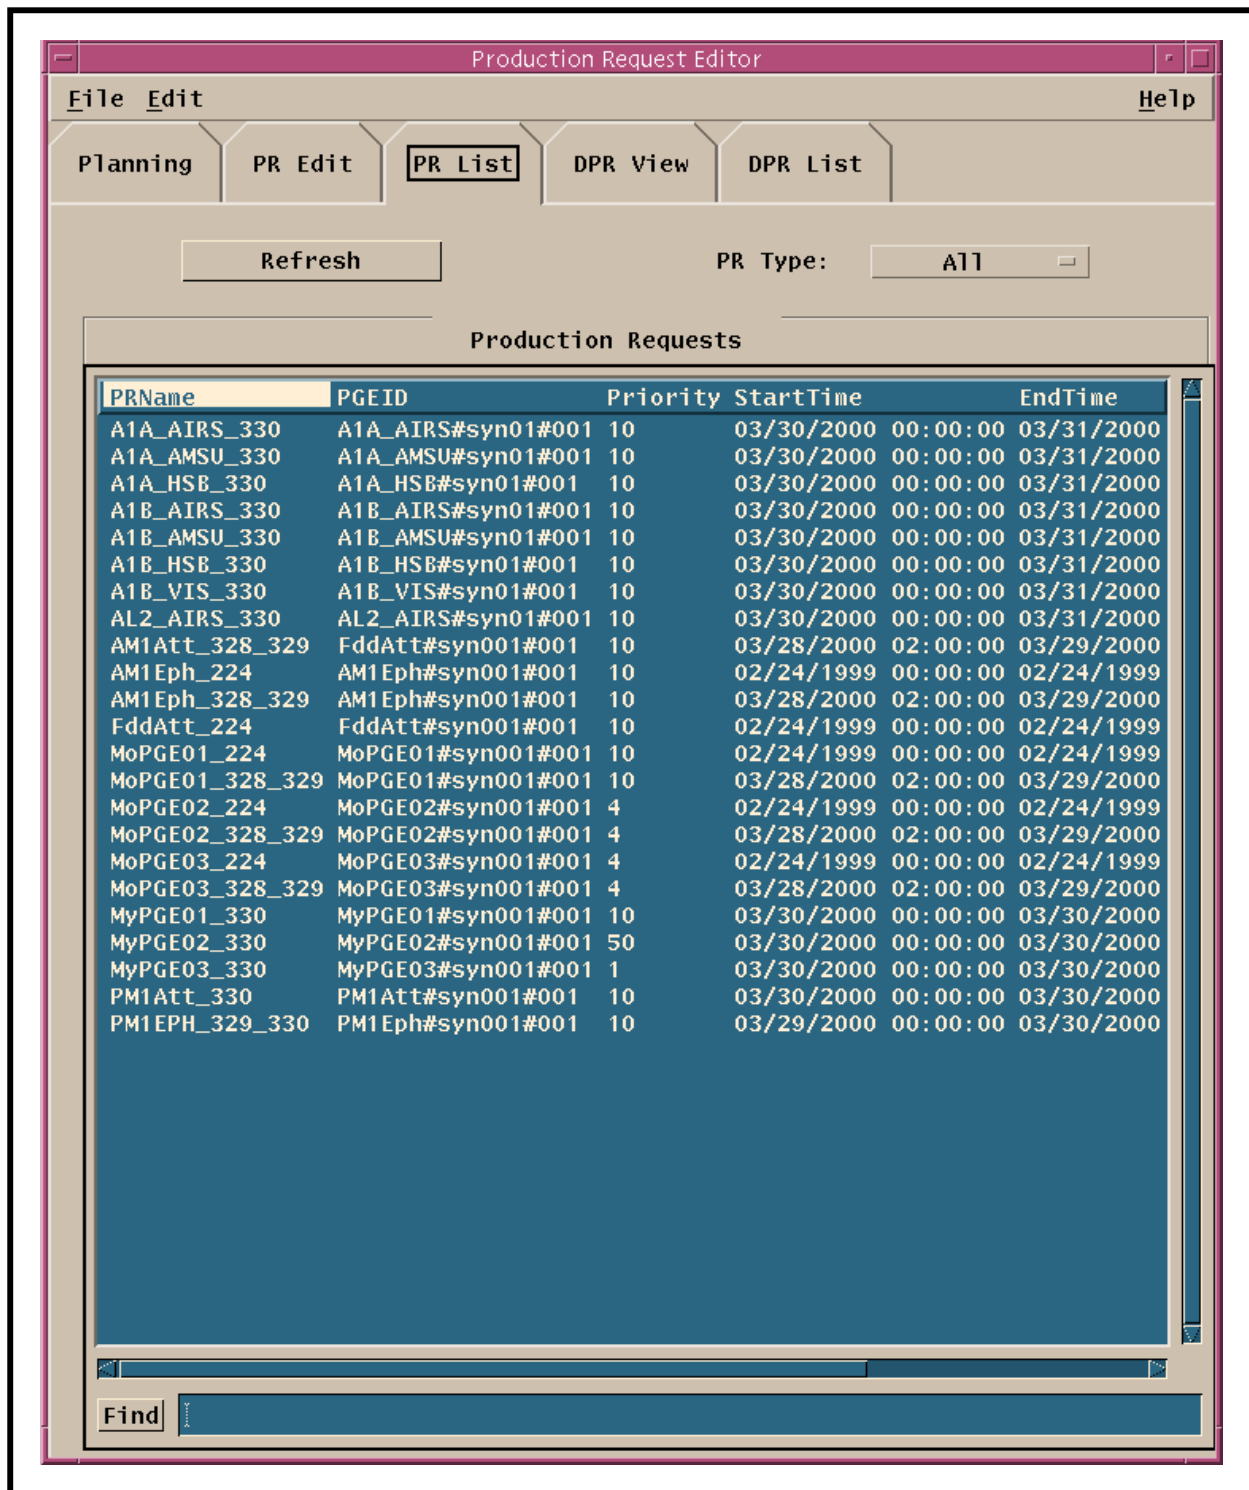

Figure 26. PR List GUI
- The **PR List** GUI page (Figure 26) is displayed.